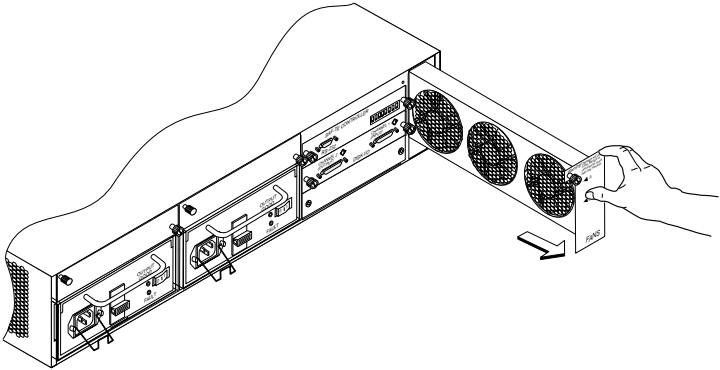

Figure 5-7. Removing the Cooling Fan Module
- 2 Grasp the screws and pull the cooling fan module from the RAID appliance. See Figure 5-7.
- 2 Grasp the screw and pull the cooling fan module from the storage enclosure. See Figure 5-7.